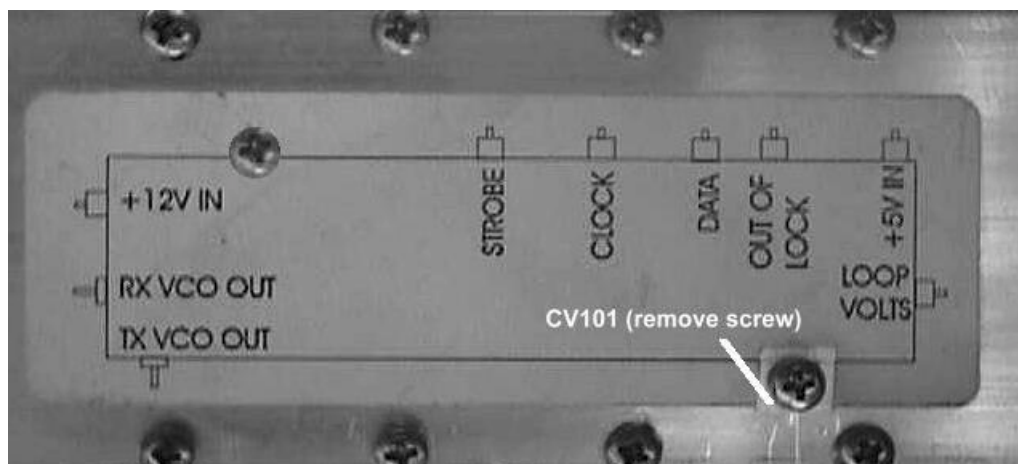

Figure 7.25: Location of Loop Volts adjustment CV101
2. Remove the bottom cover and refer to Figure 7.25 below to identify the location of the Loop Volts output feed-through capacitor in the local oscillator module. Check with a digital multi-meter (DMM) that the VCO Loop Volts measurement is within the range of 3 to 4 Volts DC.
If necessary, reset this by adjusting VCO trimmer capacitor CV101 as indicated in Figure 7.25 below. (It will be necessary to remove the screw in the aluminium block to access the trimmer. Always replace this screw after adjustment).